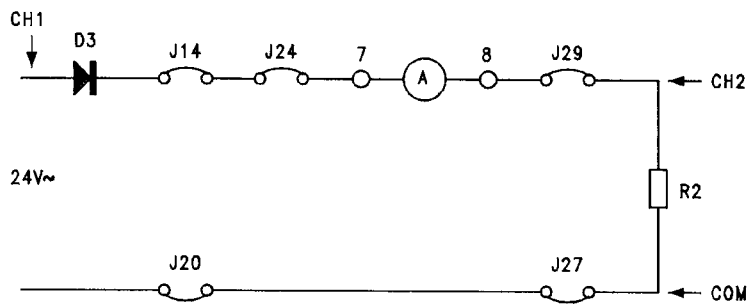

fig. B05.9
- Connect jumpers J14, J24, J29, J27, J20 and the ammeter, for dc current measurements, to produce the circuit of figure B05.9.